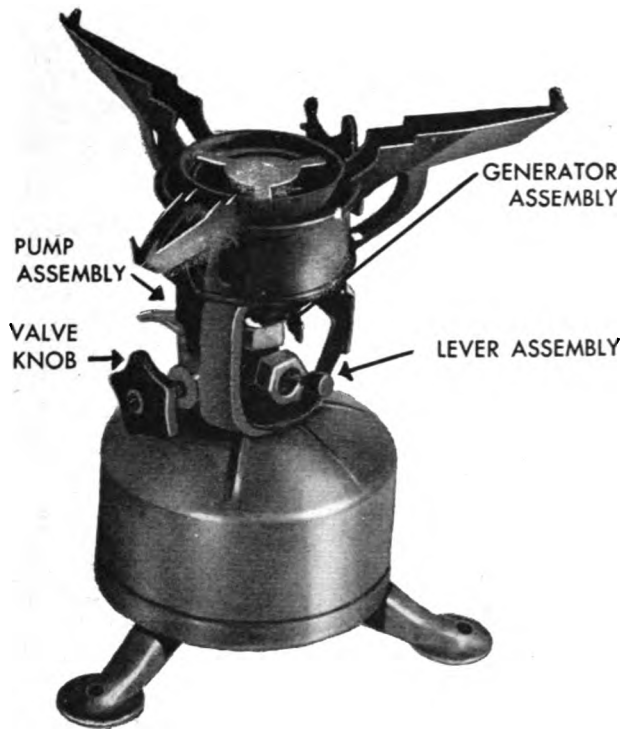
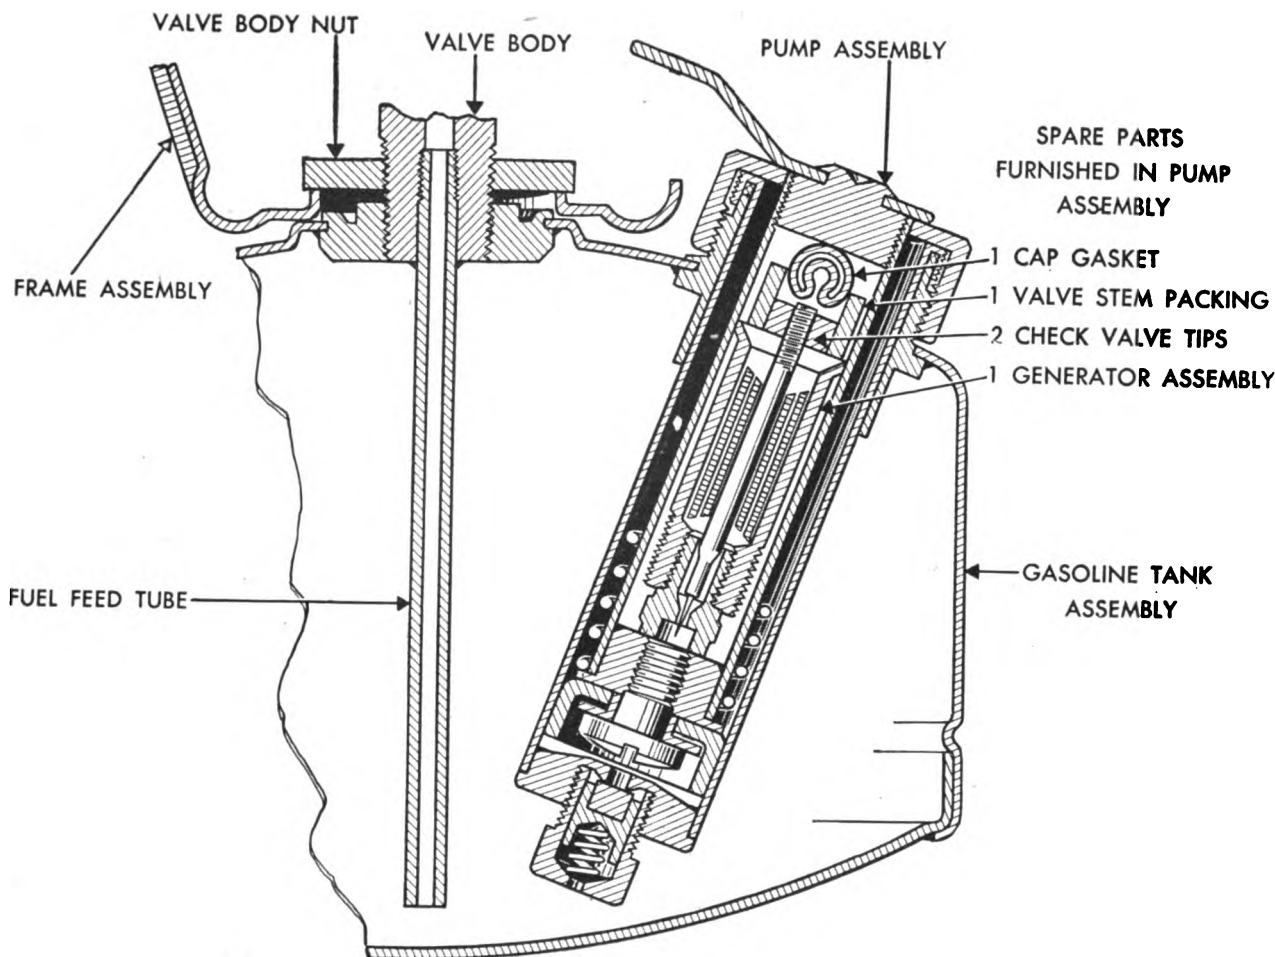

Figure 5. Stove, cooking, gasoline, M1942, one-burner, modified (65-H-2881).
Figure 7. Detail of stove, cooking, gasoline, M1942, one-burner, modified, showing spare parts in pump assembly.
a. GENERAL. Stove, cooking, gasoline, M1942, one-burner, modified (fig. 5), is a new type of the stove discussed in paragraphs 1 to 4 inclusive. It is issued under the same stock number, 65-H-2881, as the earlier model.
b. HOW TO LIGHT AND OPERATE. (1) To light this stove (see figs. 5 and 6) fill the tank three-fourths full of gasoline and tighten the cap.
(2) Clean the tip by moving the cleaning lever down and up.
(3) Pump 20 to 30 strokes with the air pump (fig. 7).
(4) Turn the valve knob, opening the valve slightly to fill the priming cup three-fourths full.
(5) Close the valve and light the burner. When the gasoline in the priming cup is almost consumed, open the valve gradually to obtain the maximum blue flame.
c. HOW TO PACK. (1) Close the valve and allow the burner to go out.
(2) Loosen the pump cap to allow air to escape and then retighten.
d. MAINTENANCE. (1) Spare parts are carried in the pump barrel (see fig. 7) and in the holder attached to the frame. To obtain parts from the pump barrel, unscrew the pump grip.
(2) Spare parts for the generator assembly of this stove are interchangeable with those supplied for stove, cooking, gasoline, M1914, one burner. (See sec. II.)
(3) One wrench is clipped to the frame of each stove.
(4) See section I, appendix, for list of maintenance parts.
e. HINTS AND PRECAUTIONS. (1) Whenever the stove is operated in a confined space, be careful to provide adequate ventilation.